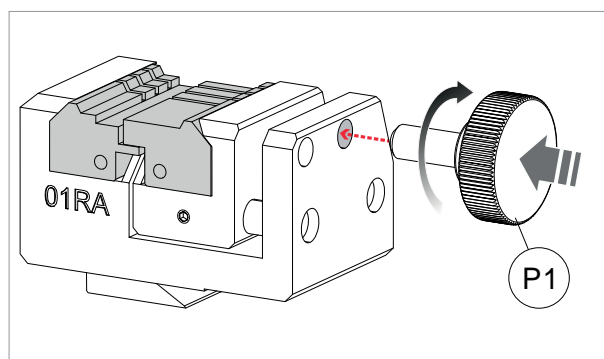

Fig. 47
- 7) Insert the knob (P1) into its specific hole (Fig. 47).